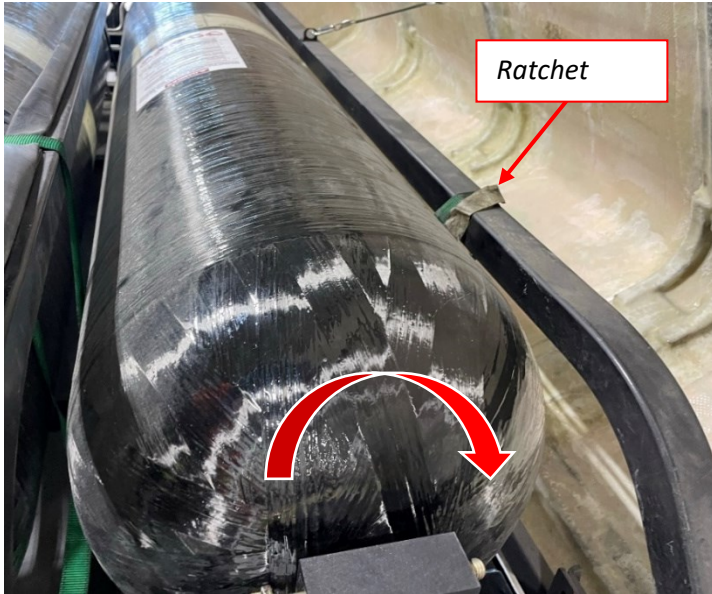
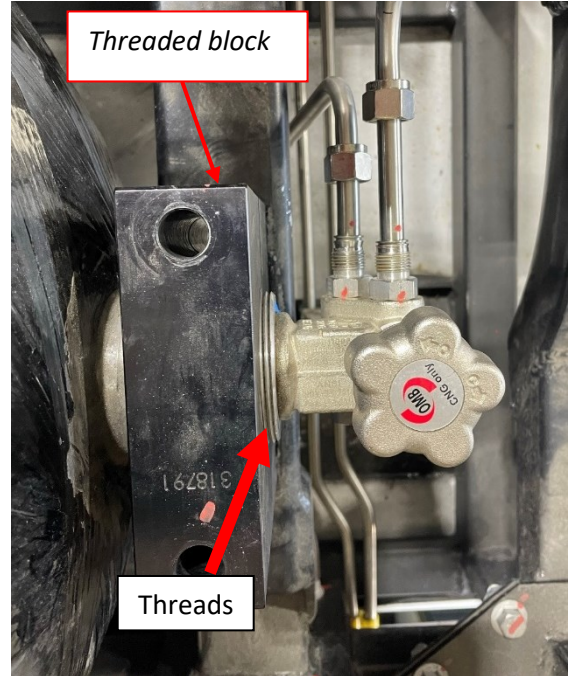

Figure 18 - Ratchet strap to be installed under the tank.
Figure 19 - Block to be spun either clockwise or counterclockwise.
4. Position a ratcheting strap below the tank near the rear of the frame and secure it to the frame rails as shown in Figure 18. Lift the rear side of the tank until it is high enough to spin the threaded block. Only the block needs to spin, not the tank. Please see Figure 19.